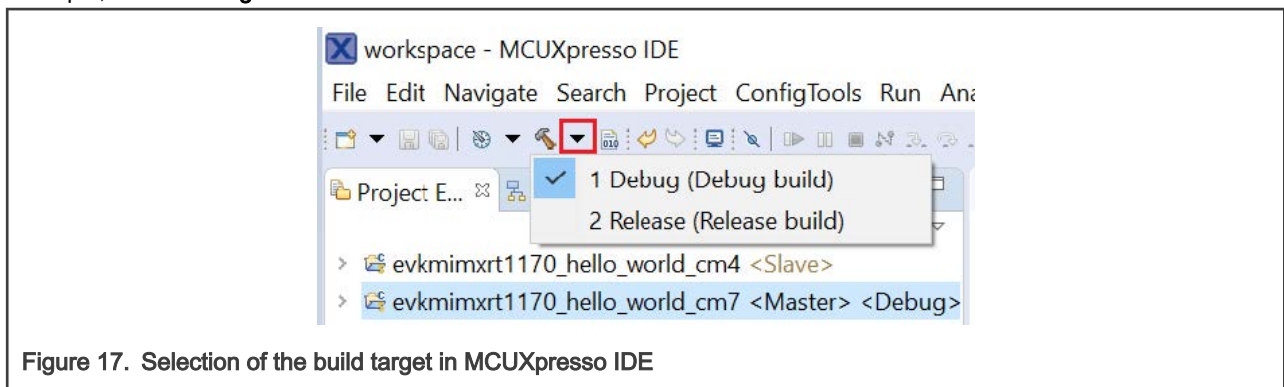

Figure 17. Selection of the build target in MCUXpresso IDE
- Now, two projects should be imported into the workspace. To start building the multicore application, highlight the `hello_world_cm7` project (multicore master project) in the Project Explorer. Then choose the appropriate build target, **Debug** or **Release**, by clicking the downward facing arrow next to the hammer icon, as shown in Figure 17. For this example, select **Debug**.